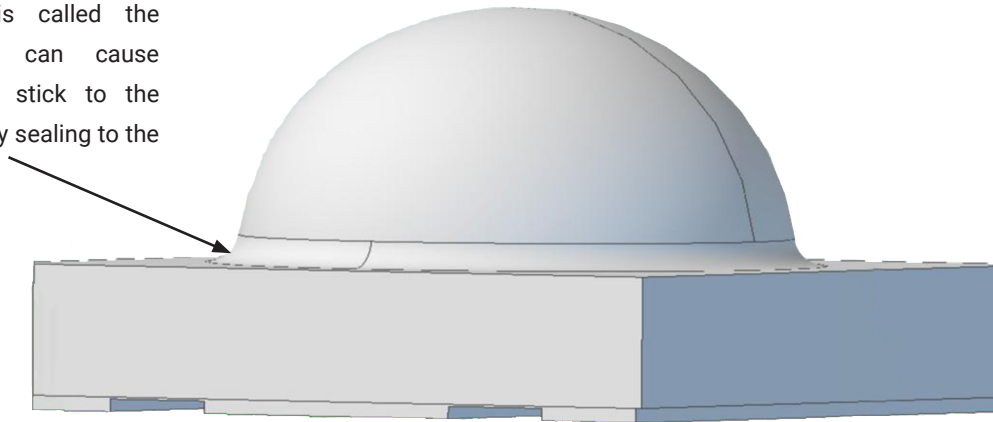

Figure 5: LED diagram
One of the simpler solutions for mis-pick and misplacement issues is to employ the correct nozzle design. Cree LED has done a significant amount of work to determine the appropriate nozzle dimensions for our LEDs. These dimensions are given in all Cree LED Soldering and Handling documents.³ One of the most critical dimensions for the nozzle design is the internal dimension (ID). It is easy to use a set of calipers to measure this dimension, but understanding that the dome does not drop straight down to the substrate is the critical aspect that can be missed when performing this measurement, as shown in Figure 5.
The image in Figure 5 is a 3D depiction of the XLamp® XP LED; STEP (.stp) files for Cree LED products can be found on the Cree LED website.⁴